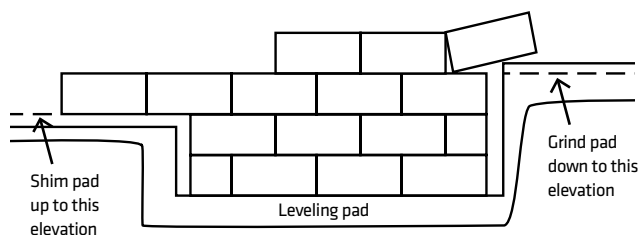

FIGURE 4
- ▶ Steps in the leveling pad are required to change elevation. It is important that the height of the step is equal to the height of the number of Mesa Unit courses. In practice, the steps may be slightly more or less due to the thickness of the Tensor® Geogrid reinforcement connected between courses and to the normal dimensional tolerances of the units. Where a concrete step is not at the same elevation of the adjacent courses, shimming or grinding will be required to match the elevation and provide a flat and level bearing surface for the next course of units. As shown in Figure 4, such grinding or shimming will be required over some distance (5 ft [1.52 m] min.) from the step to assure that the top surface of the entire course of Mesa Units placed on the stepped section of the leveling pad is flat and level. Ribs or transverse bars of the Tensor Geogrid may be used as shims if their thickness is correct.